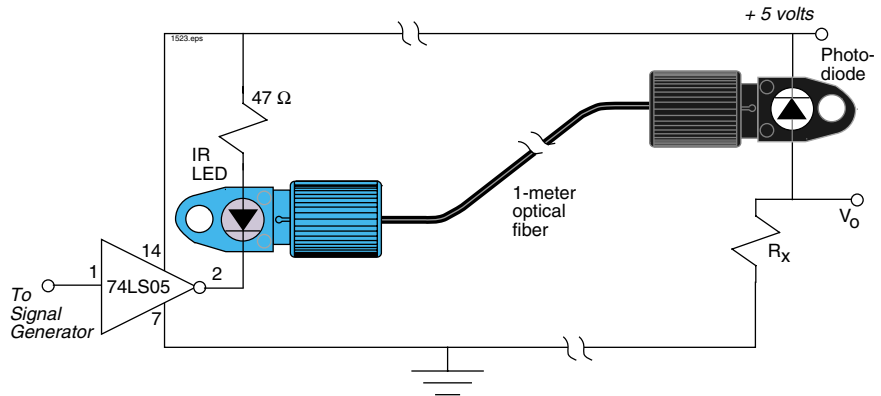
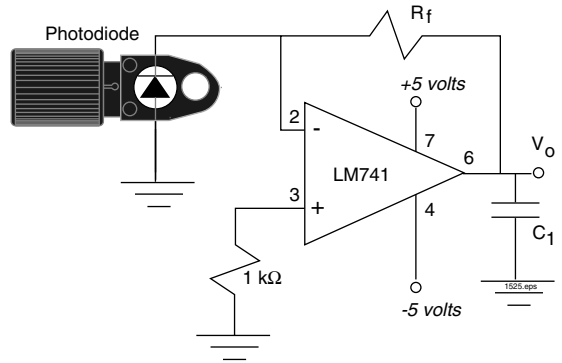

Figure 9.2 Photodiode terminated with a resistor.
Figure 9.4 Non-inverting fiber optic receiver using an operational amplifier.
The simplest transimpedance device is just a resistor. Its output is measured in volts per ampere. A photodiode and resistor termination is shown in **Figure 9.2**. The transfer function of this receiver circuit is:
1. Assemble the circuit shown in **Figure 9.2** on the solderless breadboard. Start with the resistor R_x at a value of 100 k Ω .
Table 9.1 Measured data for various termination resistors, R_x , in the circuit shown in Figure 9.2.
Fortunately there are much better fiber optic receivers than the photodiode and single resistor. One example, an operational amplifier design, is shown in **Figure 9.4**. Its main advantage over the previous circuit is that the operational amplifier buffers the load impedance from the transimpedance gain resistor, R_x . The receiver gain is still determined by the feedback resistor, and the 3 dB frequency by the circuit capacitances at the operational amplifier inverting terminal.
1. Replace the simple resistor located on the breadboard with the circuit shown in **Figure 9.4**. (Ignore C_1 for now.)
5. Place one end of the .001 μ f capacitor (C_1) at the output of the operational amplifier and the other end to ground as shown in the dashed outline in **Figure 9.4**.
Table 9.2 Measured data for various termination resistors, R_f , in the circuit shown in **Figure 9.4**.
1. Replace the photodiode in the device housing with the phototransistor. Replace the 47 Ω resistor in **Figure 9.2** with a 100 Ω resistor.
What happens to the rise and fall times at the receiver as the resistor value is reduced in **Figure 9.2**? What happens to the peak-to-peak voltage?
What happens to the rise and fall times across the termination resistor (R_X) when capacitance is added in the circuit shown in **Figure 9.2**?
What are the advantages and disadvantages of the receiver circuit shown in **Figure 9.4** compared to the circuit shown in **Figure 9.2**?
How does the addition of the load capacitance affect the rise and fall times in the circuit shown in **Figure 9.4** as compared to **Figure 9.2**? Why?
Calculate the bandwidth of the receiver shown in **Figure 9.4** with the 10 k gain resistor installed using the equation: